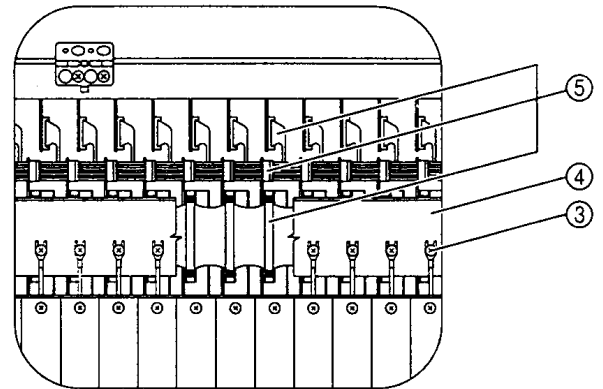

Fig.3
4. Remove the ground connection ③ on the ground bridge. (Fig.3)
5. Remove the ground bridge holding screws so that the ground bridge ④ can be raised and the three connections ⑤ disconnected. (Fig.3)